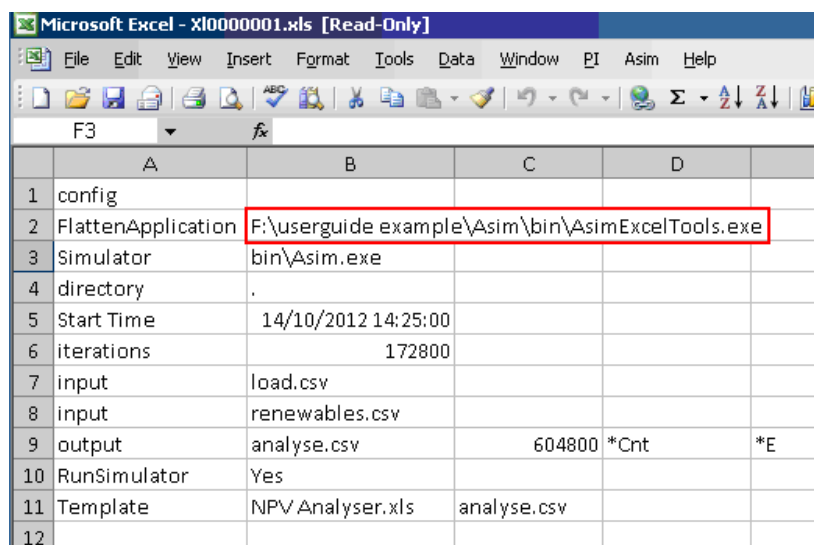

Figure 4: Absolute path to AsimExcelTools.exe
3. The cell adjacent FlattenApplication will now have an absolute path reference to AsimExcelTools.exe shown in Figure 4 and the path name to AsimExcelTools.exe is now the full path name, for example: